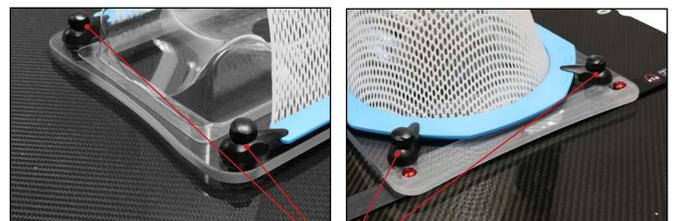

Fig. 4
2. Secure mask using the Swivel Locks on the Headboard (Fig. 4).